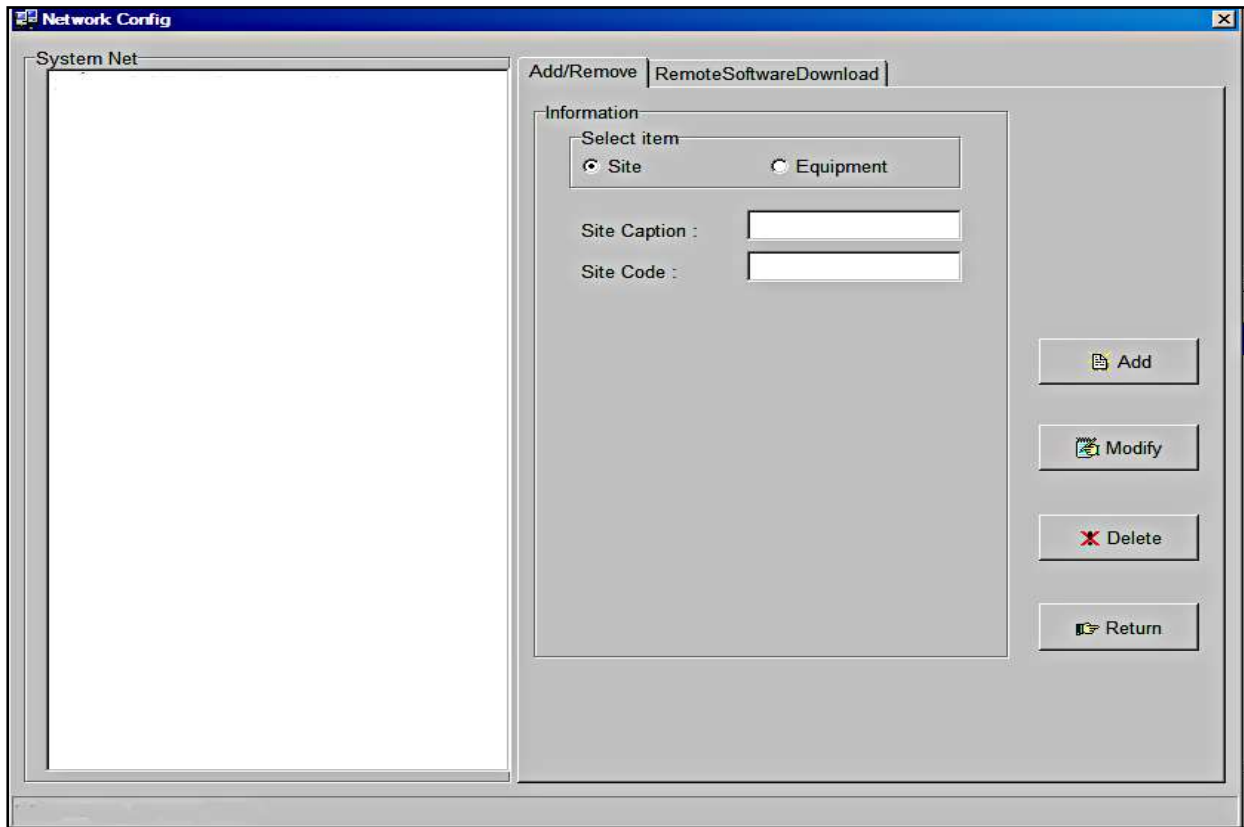

Figure 5-7. Add a Site
2. Click on the *Site* button in the *Select Information* field,, **Figure 5-7**.